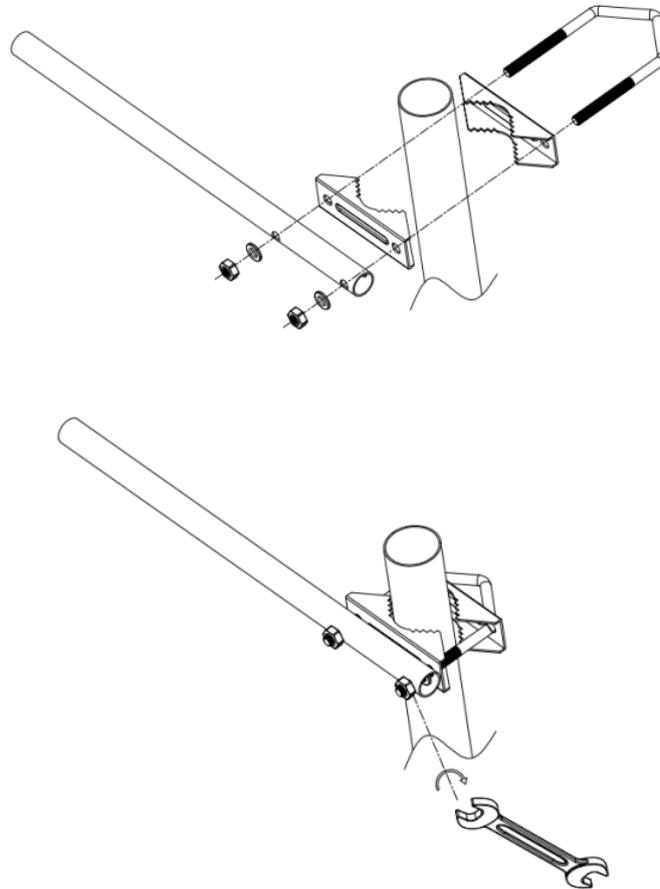

Figure 4
- Mount the bracket set and crossbar (optional) on a vertical mast as shown in Figure 4: